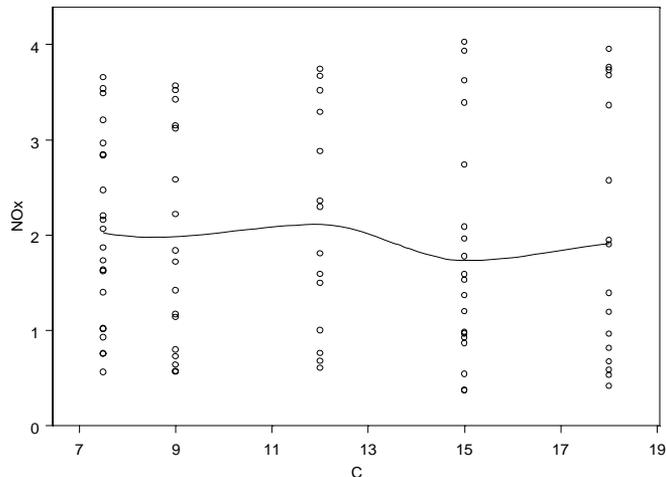

Figure 3.37: Compression ratio versus nitrogen oxide in the `ethanol` data set (default smoothing).
3. Click the **Loess** button  on the **Plots 2D** palette to create a scatter plot with a loess smooth, as shown in Figure 3.37.